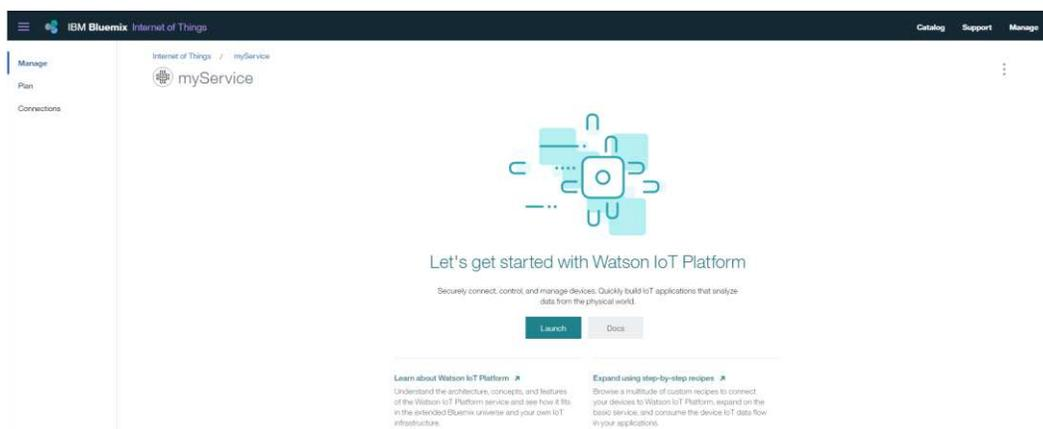

Figure 17. Service Launch
4. Use **myService** as the **Service name**, though any name may be used. The service name, myService, will be used later in this user's guide. All other options can remain unchanged. Click **Create**. You should now see a screen as shown in Figure 17.